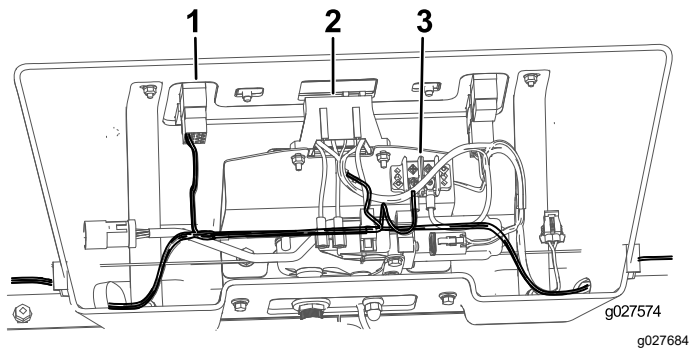

Figure 10
2. Connect the wire harness to the switch, fuse block, and ground terminal (Figure 10).